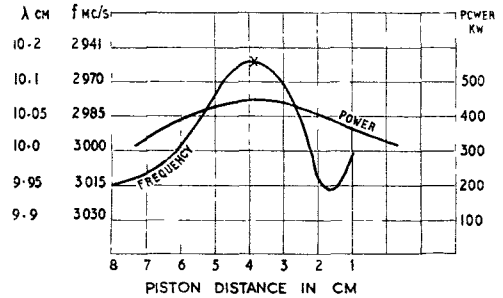

Fig. 13. Waveguide piston setting
37. Screw in the plunger a half-centimetre at a time, and note the frequency and power output at each step. Plot the results and draw smooth curves through the points obtained. The curves should be similar to those in *fig. 13*. The best plunger setting will be that at which maximum power and frequency stability exist (point X in *fig. 13*). Set the plunger to this point and lock it. Adjust the local oscillator.